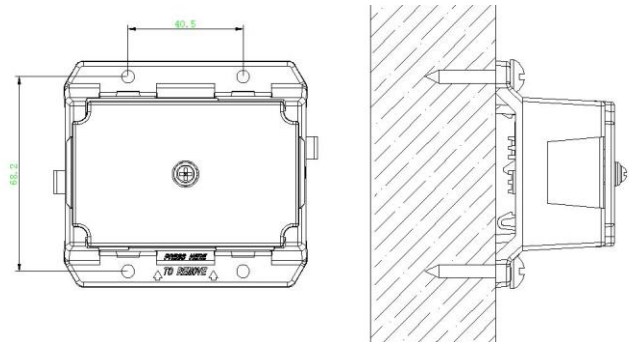

Fig. 3
- 3) The module can also be installed in the enclosure by 4 mounting screws as shown in Fig3. Minimum mounting space is 68.2x40.5mm.